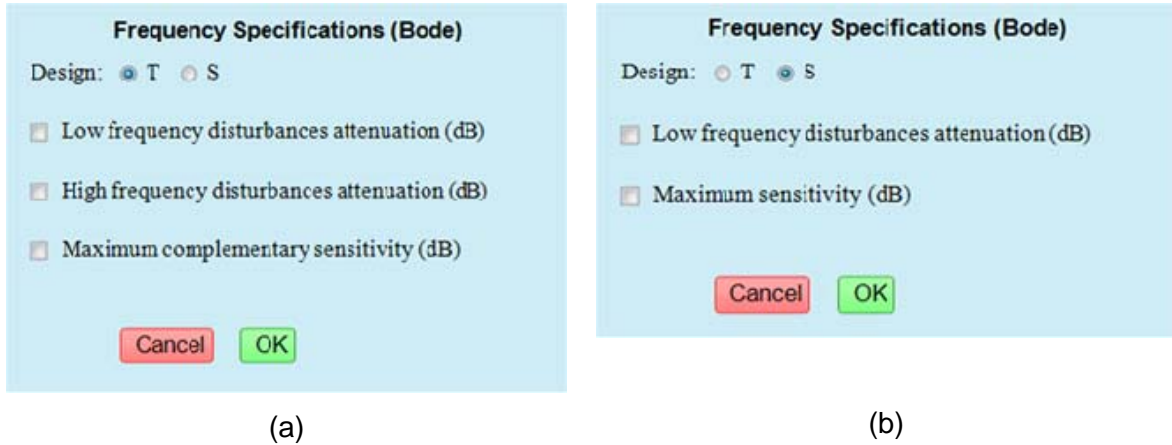

Figure 24. Auxiliary window to configure the frequency specifications to design a) $T(s)$ or b) $S(s)$.
1. Click on the button *Frequency specifications*. An auxiliary window (see Figure 24) is shown on the screen.